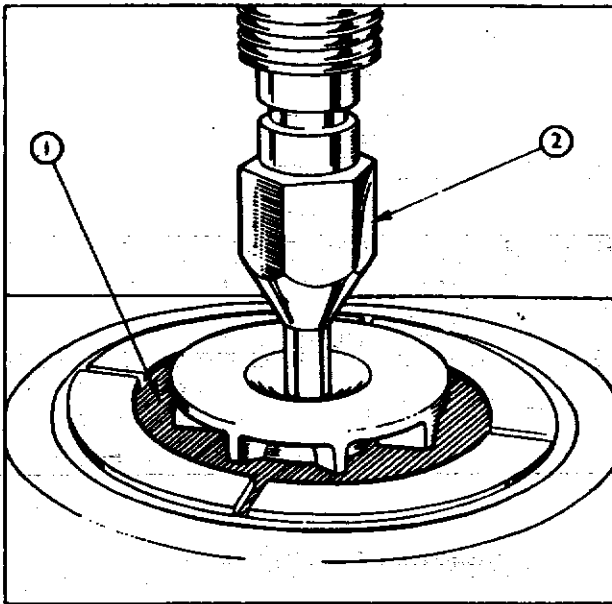

Fig. 10.
5. Press the impeller off the end of the shaft, using adaptors CPT.8000-2 detail "b" and CPT.8000-3 detail "d" as shown in Fig. 10.